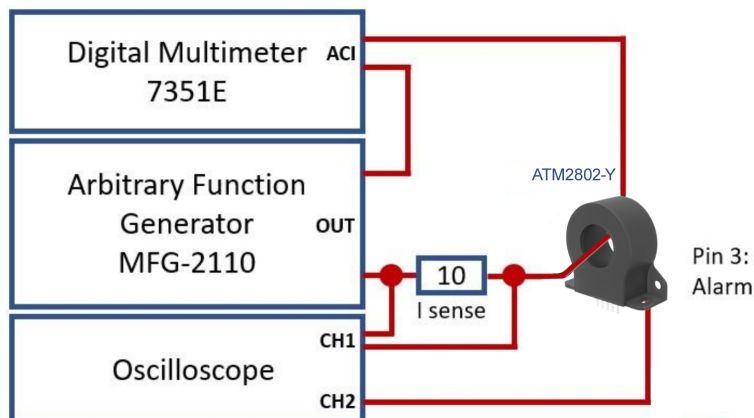

Figure 3: Test setup for 9.7.3.2, 9.7.3.3 and 9.7.4.2
- Use the setup shown in Figure 3.